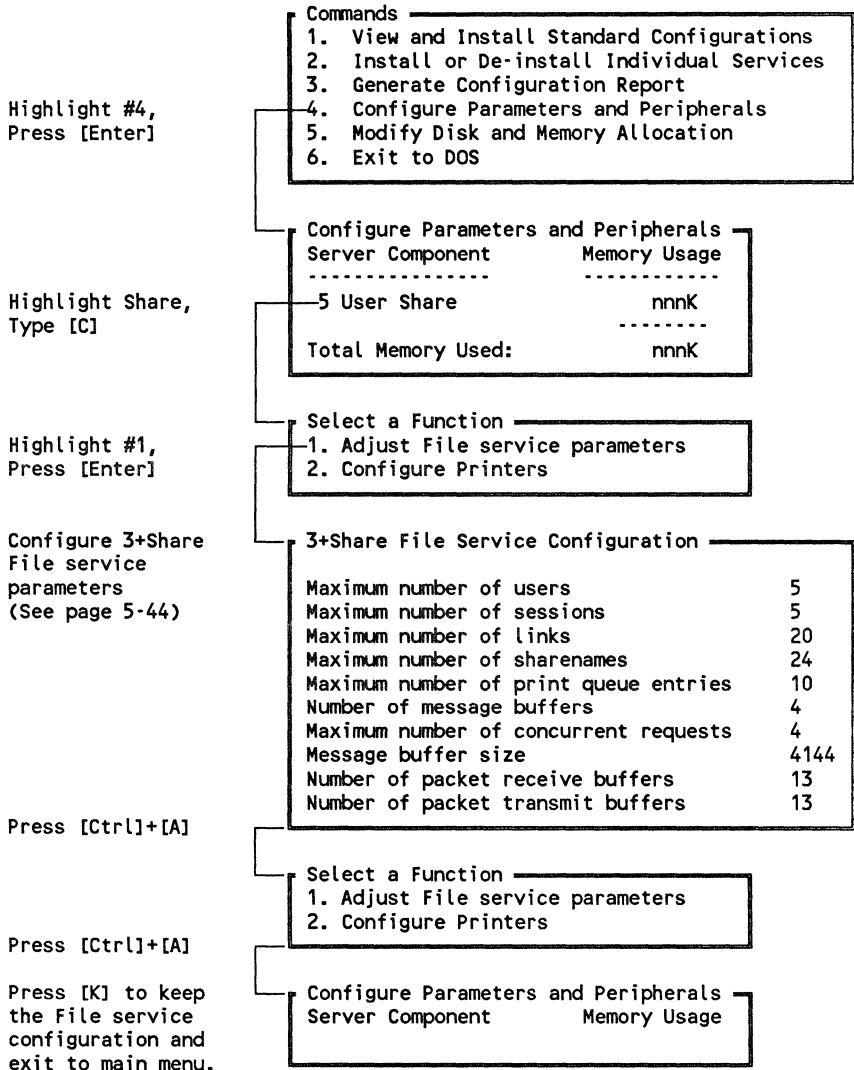

Figure 4-2. How to Adjust 3+Share File Service Parameters
NOTE: If you install a standard configuration and intend to add one more service that you will install individually, accept the preset parameter values. Proceed with the individual installation, then adjust the parameter for number of users (see Figure 4-2).
CAUTION: If you are installing N User Share or a Mail service after having installed a 5 User version of the same service, you will be asked twice to insert your service diskette. Make sure you insert first the diskette you marked as 5 User. After installation, adjust the number of users. See Figure 4-2.
- ▶ Adjust for **Number of users** after installing N User Share on a PC server (see Figure 4-2).